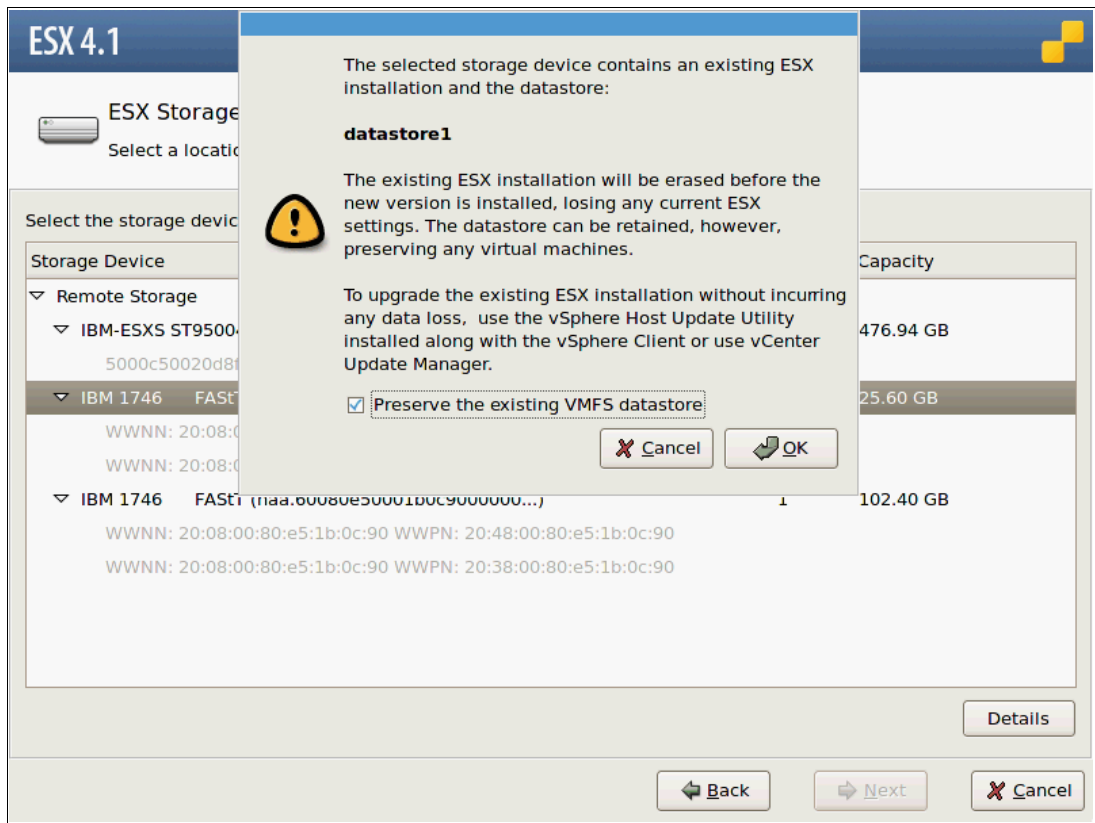

Figure 22-25 ESX Device content warning
14. If VMware finds an existing Installation, you will get a warning about it. You can choose to preserve your VMFS datastore on the Delete Device Contents warning panel as shown in Figure 22-25. Click **OK** to continue.